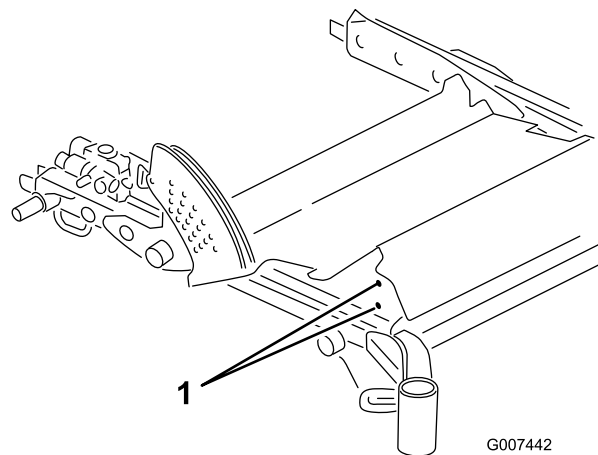

Figure 1
1. Locate the two pilot holes in the right side of the carrier frame (Figure 1).